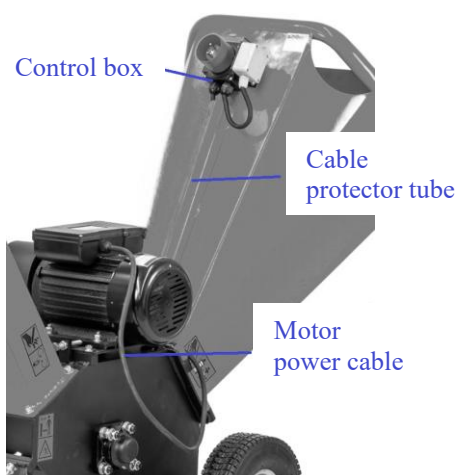

Fig. 4d
- Position the motor power cable so that it does not interfere with installation or operation. Refer to Figure 4d for guidance.